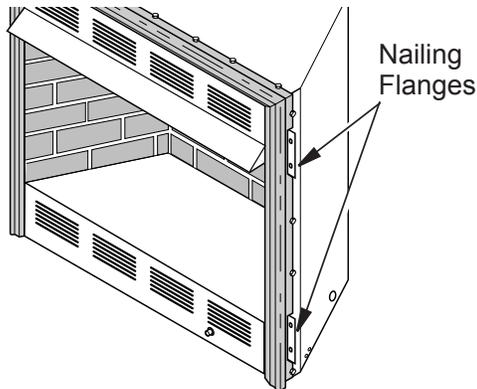

Figure 16 - Location of Nailing Flanges
- Break off nailing flanges (see Figure 16) with hammer or pliers.